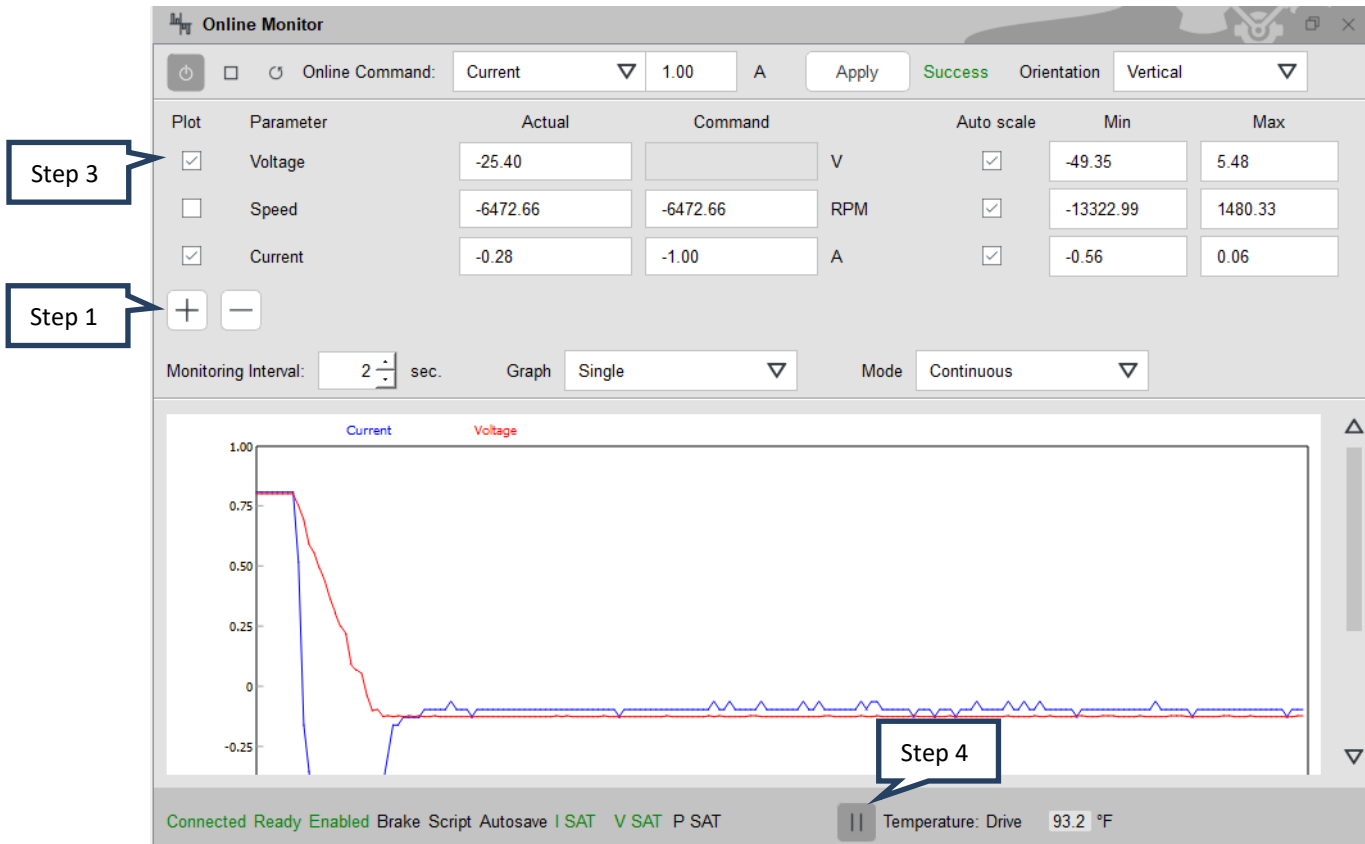

Figure 56: Motor Speed and Current Plot
Step 1: Select  icon to open “Add Monitoring Parameter” window as shown in Figure 56.
Step 4: The data will be displayed as a graph and can be paused using the  icon and resumed using the  icon at the bottom of the window. Figure 56 shows an example in which the motor speed, current and position is graphed.